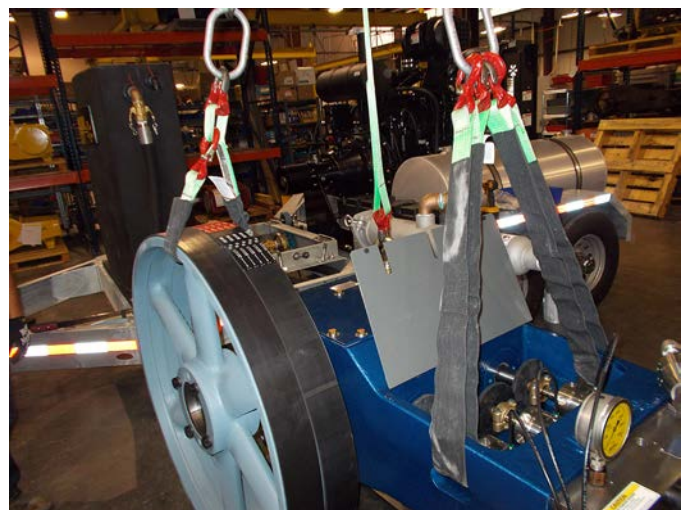

Fig. 150: Lifting the Pump
6. Attach a hoist and lifting apparatus to the pump as shown in (Fig. 150). The weight of the pump is approximately:
3. Attach a hoist and lifting apparatus to the pump as shown in (Fig. 150). The weight of the pump is approximately: